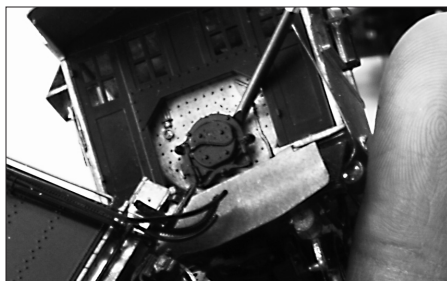

Figure 10 - Remove the firebox door casting.
2. With a small hobby screwdriver or blade, pry the firebox door casting away to reveal the rear chassis/boiler screw. Remove this screw. See Figures 10 and 11.